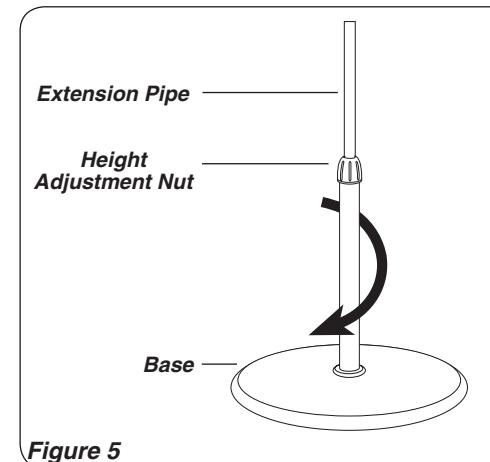

Figure 5
1. With a twisting motion, insert the end of the large diameter pipe into hole in *Base*. (*Figure 5*) Turning pipe while pushing will assure pipe is fully seated in *Base*.